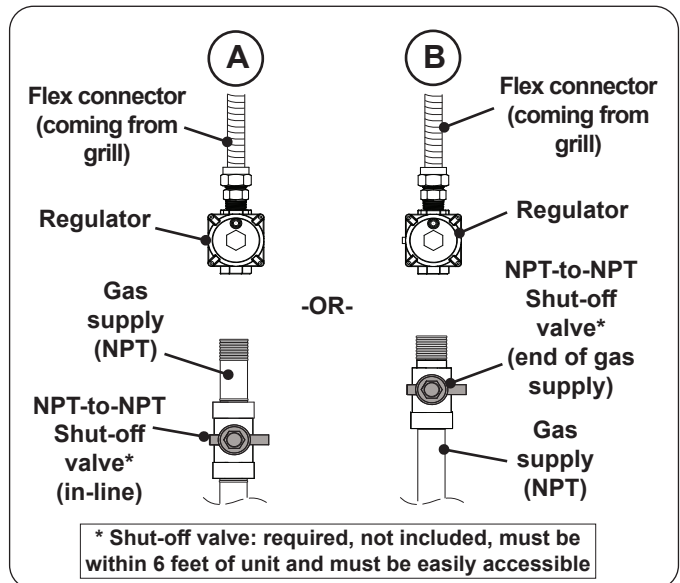

Fig. 26-1 Household propane & natural gas diagram
- Connect the regulator (on end of flex connector) to the gas supply (NPT) OR shut-off valve (NPT) using a pipe joint compound resistant to all gasses (see Fig. 26-1, A or B). Tighten securely.